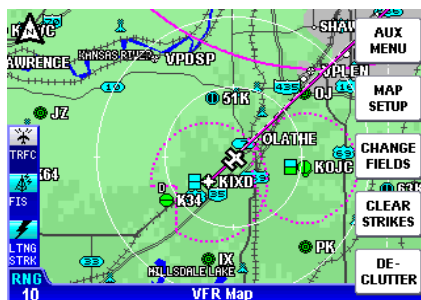

Figure 1-1
1. Press the **MENU** Key to display Figure 1-1.